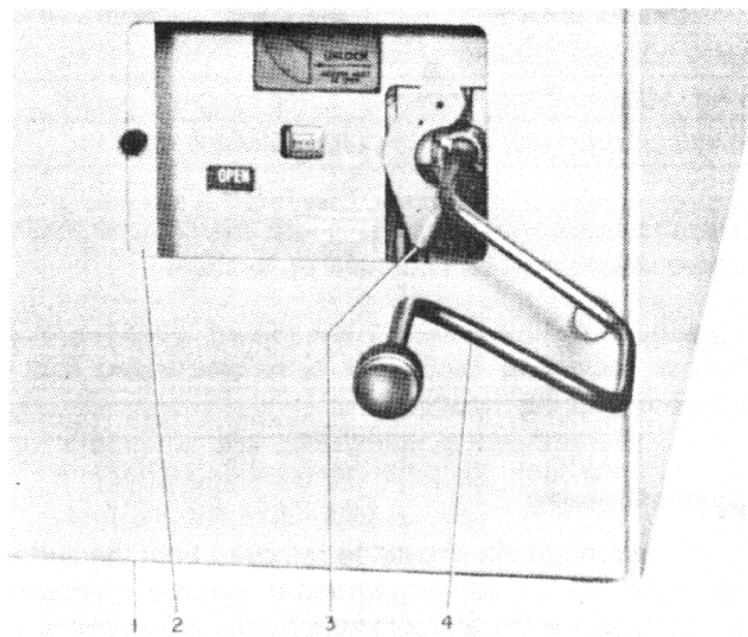

Fig. 4 — Method of Racking Circuit Breaker
Engage racking crank (4, Fig. 4) and push racking unlocking lever (3) to left, then rotate racking crank counterclockwise only until resistance to motion is felt (DO NOT FORCE). If closing springs were left in the "charged" condition, they will automatically discharge.
To rack circuit breaker to "TEST" position, push racking unlocking lever (3, Fig. 4) to left, rotate racking crank approximately 1/4 turn clockwise, then release unlocking lever. Continue cranking until racking mechanism automatically stops at "TEST" position.
When racking circuit breaker to "CONNECTED" position, close compartment door (1, Fig. 4) and insert racking crank (4, Fig 4.) through sliding panel (2, Fig. 4).
CIRCUIT BREAKER REMOVAL (See Fig. 4)